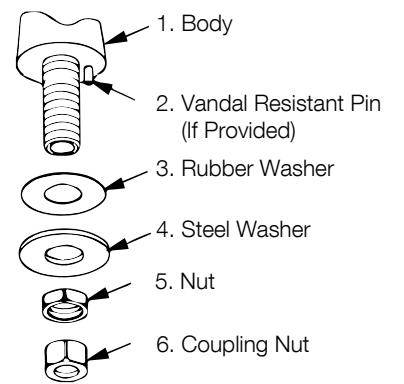

**Figure 1**
NOTE: For vandal resistant fittings only, the installer must drill a hole in the deck to accommodate the Vandal Resistant Pin (Figure 1, item 2). It is important to obtain the rough-in drawing for the particular model being installed. The drawing illustrates the exact size and positioning of the pinhole.